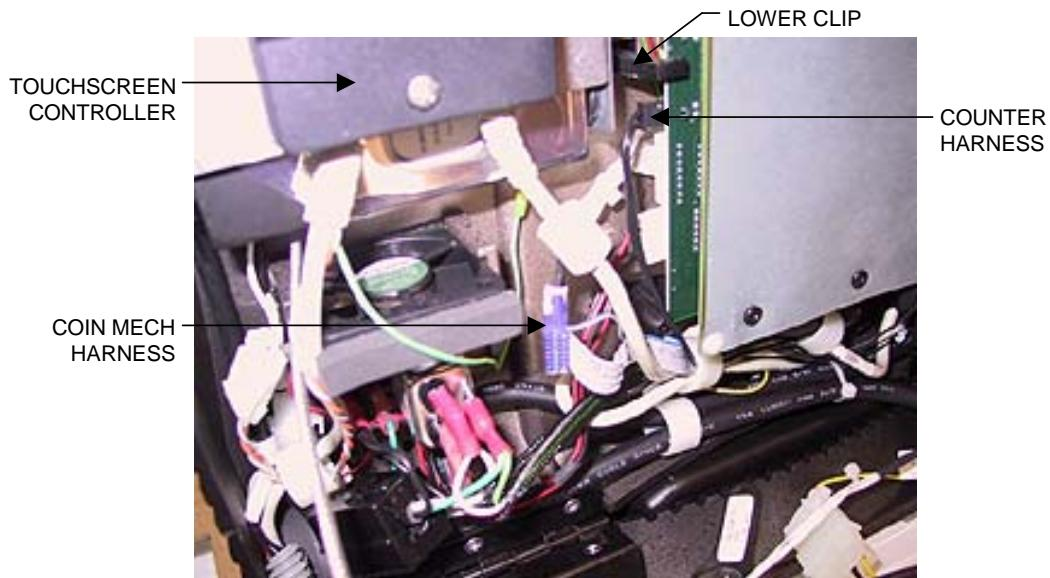

FIGURE 14 - CLOSEUP OF CPU SECTION
3. In the CPU section, locate and disconnect the coin mech harness (blue and gray ribbon cable) found near the lower edge of the motherboard (see Figure 14) and remove it from the cable clamps. Also disconnect the counter harness on the left edge of the motherboard, opposite the touchscreen controller (see Figure 14). Then pull both connectors back through the access hole below the board (see Figure 1) and out of the game.
9. Reconnect the counter harness in the connector below the lower clip securing the motherboard, then reconnect coin mech harness after replacing it in the cable clamps. See Figure 14.